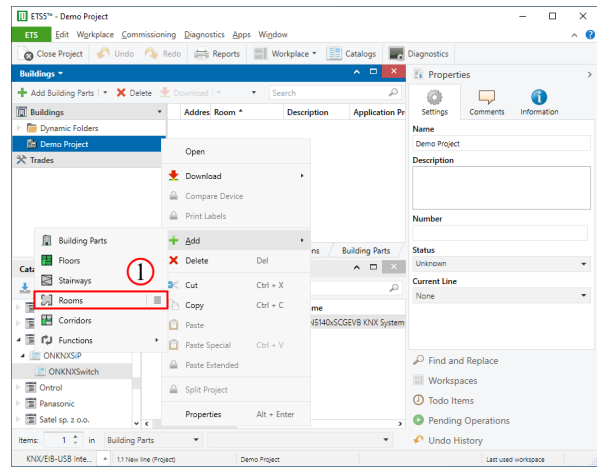

Figure 20. Add a Room to the Building in Which your Device is Installed
It is not possible to add devices to the building itself. So in order to be able to add our evaluation board, add a room to the building. Do this by right clicking on the building in the *Buildings* view and selecting *Add* → *Rooms* ① as shown in figure 20. You will now be prompted to enter a room name. Enter an appropriate name and click *Ok*.